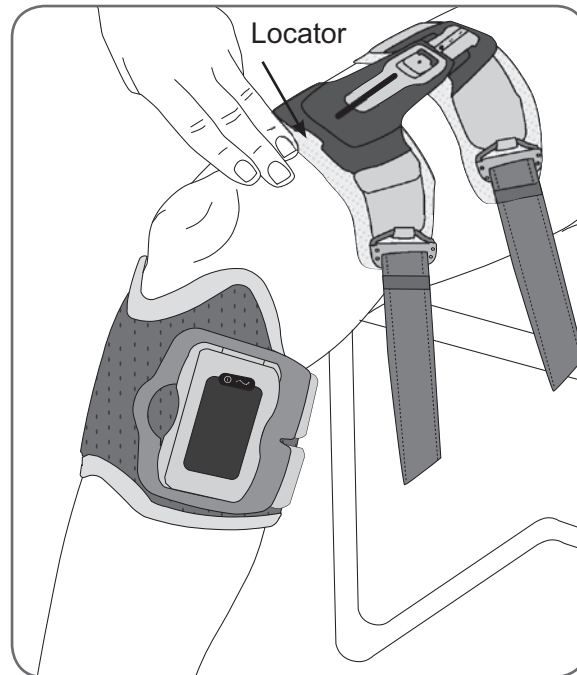

Figure 7-5: Thigh FS Cuff locator correctly positioned on the quadriceps.
3. Place the Thigh FS Cuff locator on the midline of the thigh, approximately three finger widths from the knee. See Figure 7-5.